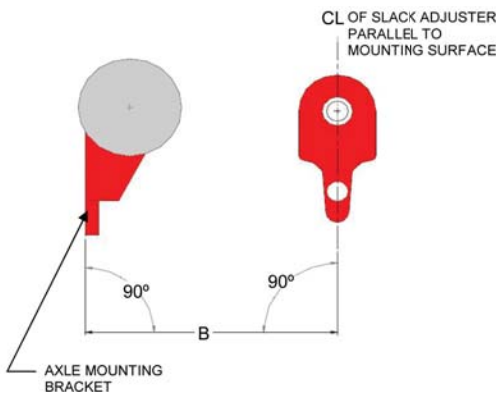

Figure 12
- To install new brakes on the axle, determine the correct push rod length. Measure Dimension “B” as shown in Figure 12. The brake mounting bracket must be parallel to the slack adjuster center line.